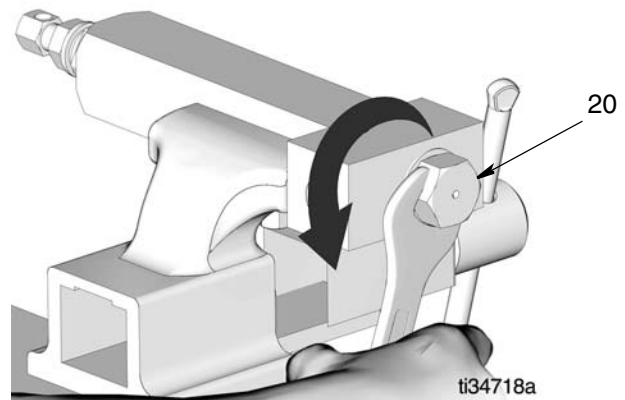

FIG. 2
NOTE: Single injectors can be secured in a vise to loosen and remove adapter bolt (20) as shown in FIG. 2.